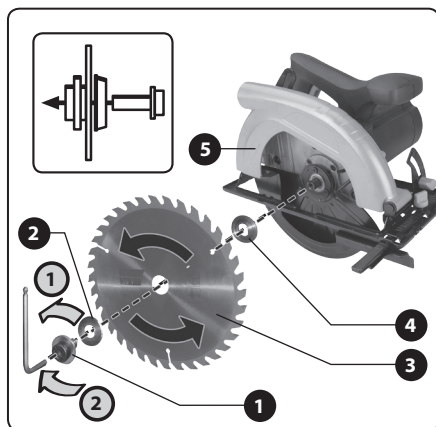

Fig. 2
3. Press down the spindle block button and at the same time use a hex key to screw out the clamping bolt with washer (fig. 2, position 1) in the direction of the arrow „1“ and remove it.
4. Tilt out the bottom saw blade guard (fig. 1, position 10) to the side and on to the retaining washer (fig. 2, position 4) place the circular saw blade so that the
orientation of the teeth on the saw blade corresponds to the arrow on the top saw blade guard (fig. 2, position 5), see fig. 2.
5. Then secure the circular saw blade by firmly tightening the clamping bolt with washer (fig. 2, position 1 and 2) in the direction of the arrow „2“.